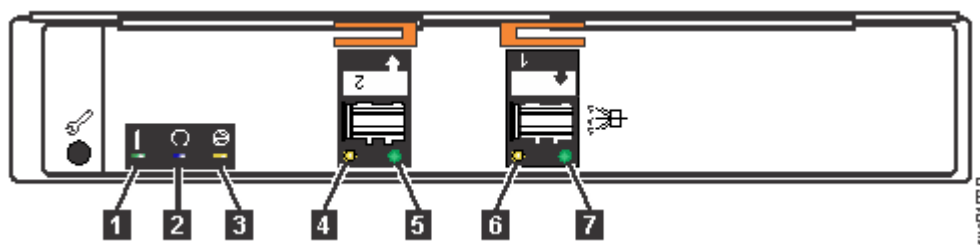

Figure 154. Expansion canister
An expansion canister provides SAS connectivity between the 5U expansion enclosure and control enclosure system. If either of the two expansion canisters has a failure, the other expansion canister assumes the full I/O load. Figure 154 on page 198 shows the features of an expansion enclosure.
3. Release the lower cable management arm to swing it out of the way, as described in Figure 154 on page 198.